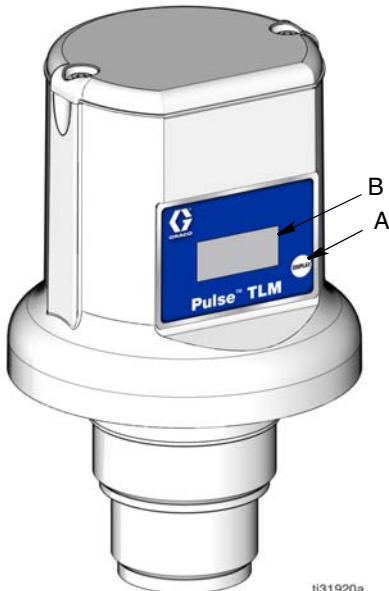

FIG. 6
Press and release the display button (A). Data appears on the display (B) (FIG. 6); each screen lasting a few seconds before going on to the next.
After a tank is refilled from an oil distributor or a waste oil tank is emptied by a waste oil service provider, press the display button (A) (FIG. 6) on the TLM to ensure the TLM will maintain the most current tank volume status.